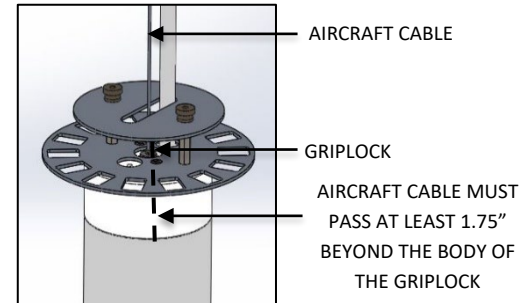

FIG. 29 – FIXTURE INSTALLATION
6. Raise the fixture and feed the AIRCRAFT CABLE into the GRIPLOCK by pressing the plunger of the GRIPLOCK and insert the AIRCRAFT CABLE into the body of the GRIPLOCK and adjust fixture drop to desired height as shown in FIG. 29.